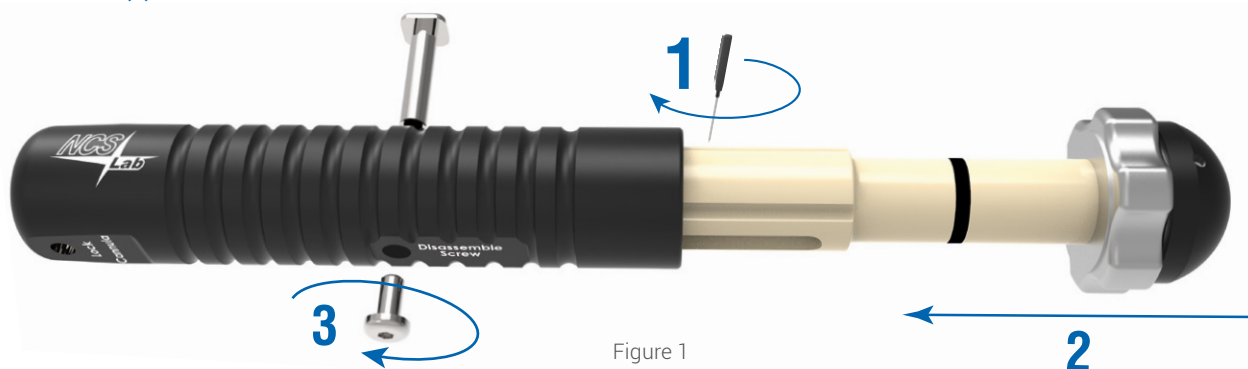

Figure 1
INSERT THE MAIN BODY TS PIN ALIGNED (FIG.1 N.3) AND LOCK THE SCREW (3).